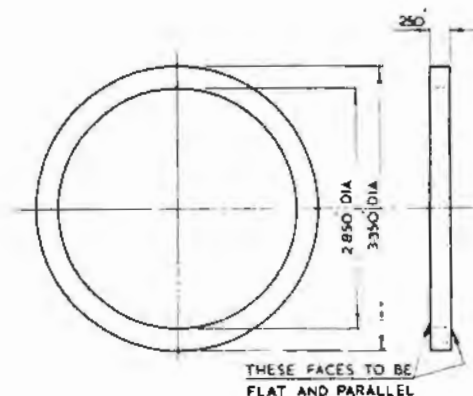

Fig. J.18. Distance Pieces for Crown Wheel Checking.
- Crown wheel checking distance pieces as shown in Fig. J.18.
- Make up two distance pieces as shown in Fig. J.18.